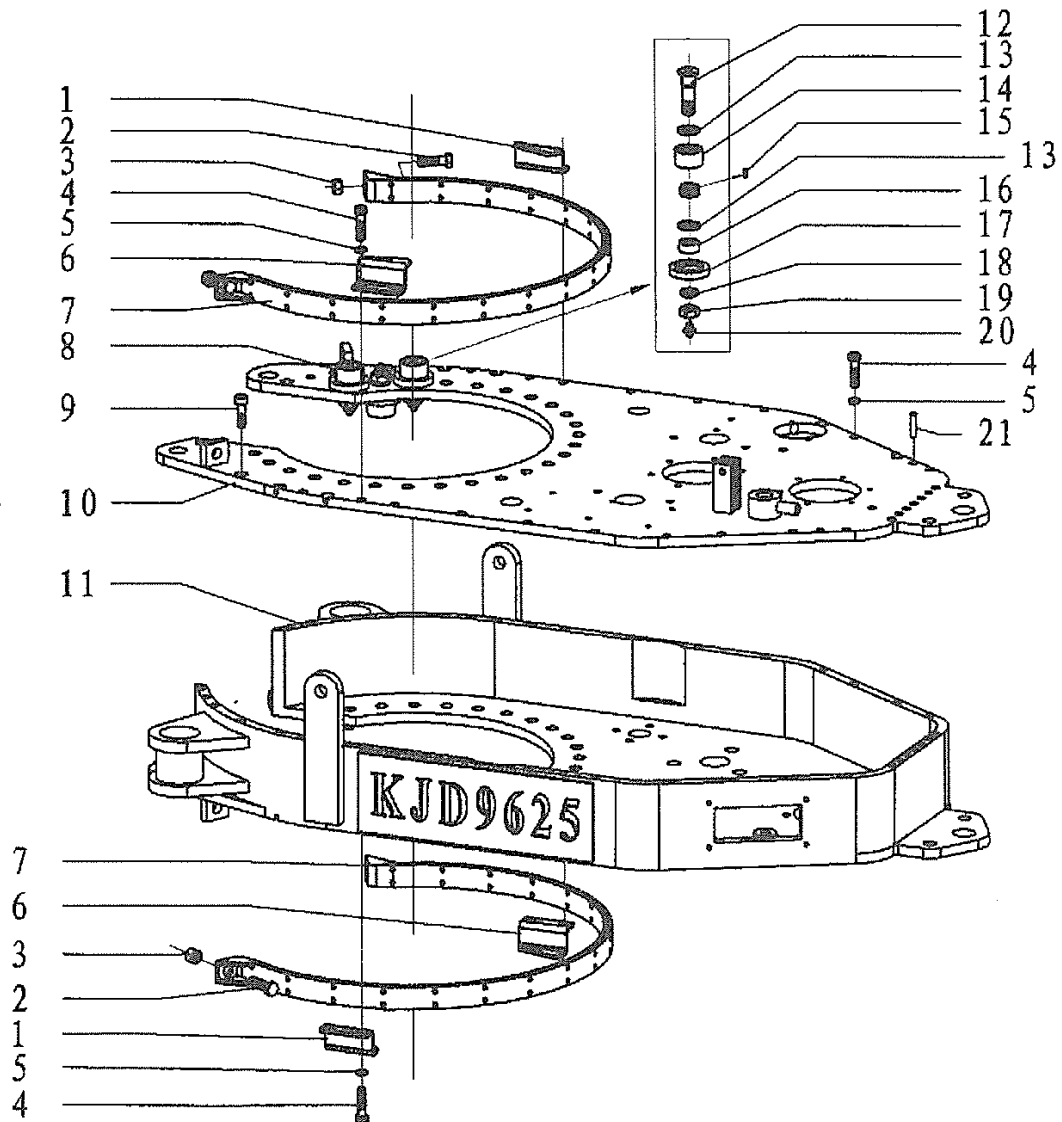

Fig5.
- 8.4 Case body, centralizing and brake assembly (Fig5. Table5)
8.4 Case body, centralizing and brake assembly (Fig5. Table5)